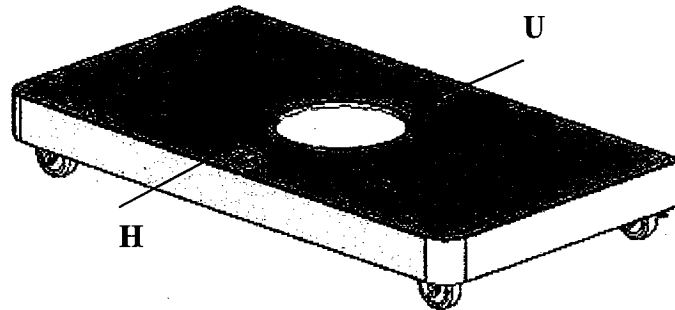

Fig. 3
As shown in Fig.3, align the holes in the magnet (H) with the holes in front of the bottom panel (U). Insert the screws into the aligned holes.